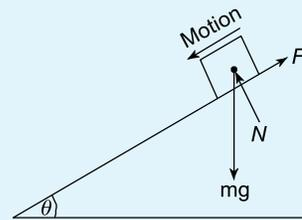

Figure 16.14
3. An experiment is required to obtain the static value of  $\mu$ ; this is achieved by increasing the value of  $\theta$  until the mass just moves down the plane, as shown in Figure 16.14. If the experimentally obtained value for  $\theta$  was  $22.5^\circ$ , what is the value of  $\mu$ ? [ $\mu = 0.414$ ]